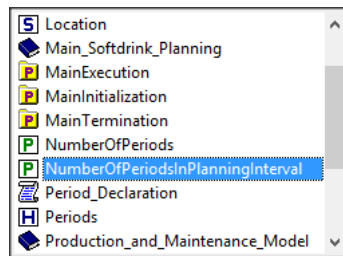

Figure 6.10: The **Name Completion** pop-up menu
- ▶ use the *Ctrl-Spacebar* key combination to let AIMMS provide you with the list of all identifiers and let AIMMS select the first possible extension of the letter 'N' (see Figure 6.10), and